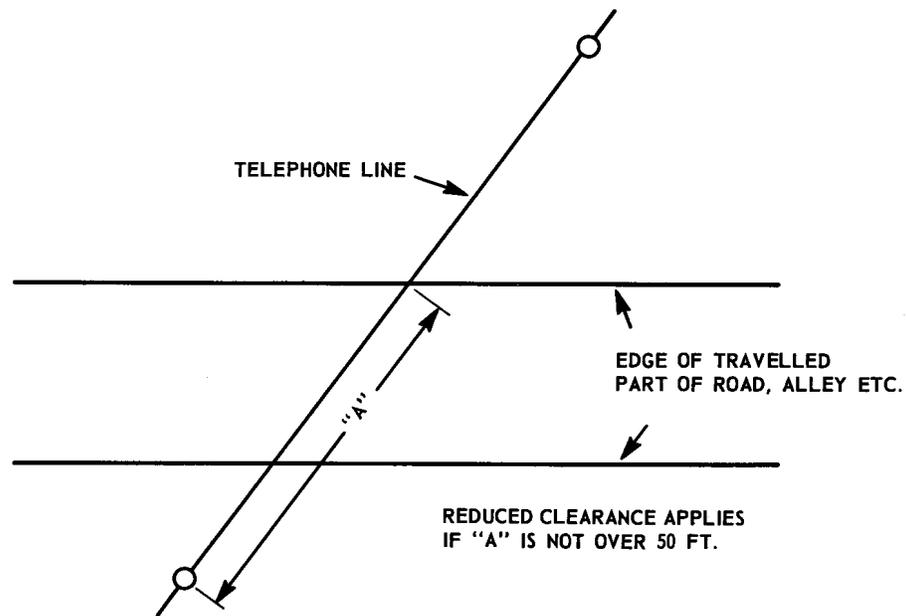

Fig. 1
1.04 Note that clearance requirements shown for wire overhanging the traveled part of public roads are considerably larger than the clearances required where no such overhang exists. Note also that clearances for wire crossing alleys, roads and driveways show one set of values for general use and a second somewhat lower set of values for use when one pole is located within 50 feet of the far edge as shown in Fig. 1.
1.05 Multiple drop wire must be installed with relatively large sags. Hence it will generally be advantageous to locate poles and wire runs so that the middle of the span will *not* be above the traveled part of the road, alley or driveway. This will often be the case at crossings when the far edge of the road, alleys, etc, is 50 feet or less from the pole. (See Fig. 1) When this condition exists, it may be possible to base the height of pole attachment on something less than 100 per cent of the midspan. The following table shows the percentage of midspan sag to be used in determining the height of pole attachment when the 50-foot criterion applies. This procedure should be ignored for spans less than 145 feet.